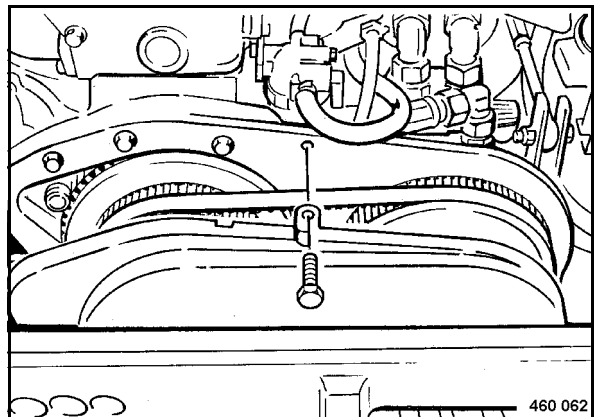

Fig. 101
- Remove the protection hood (Fig. 101).